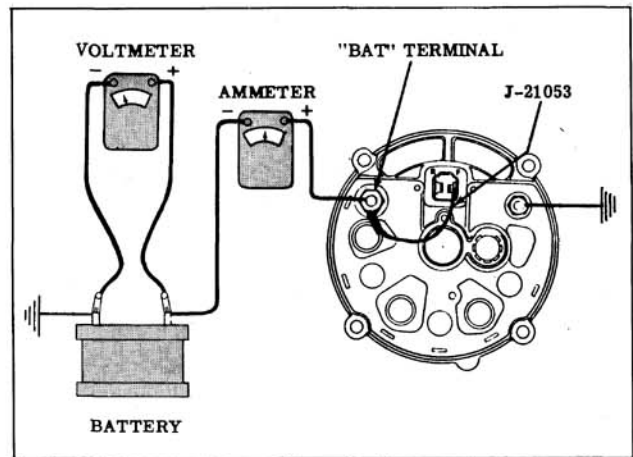

Fig. 13-16 Checking Generator Output
**GENERATOR OUTPUT CHECK (Fig. 13-16)**